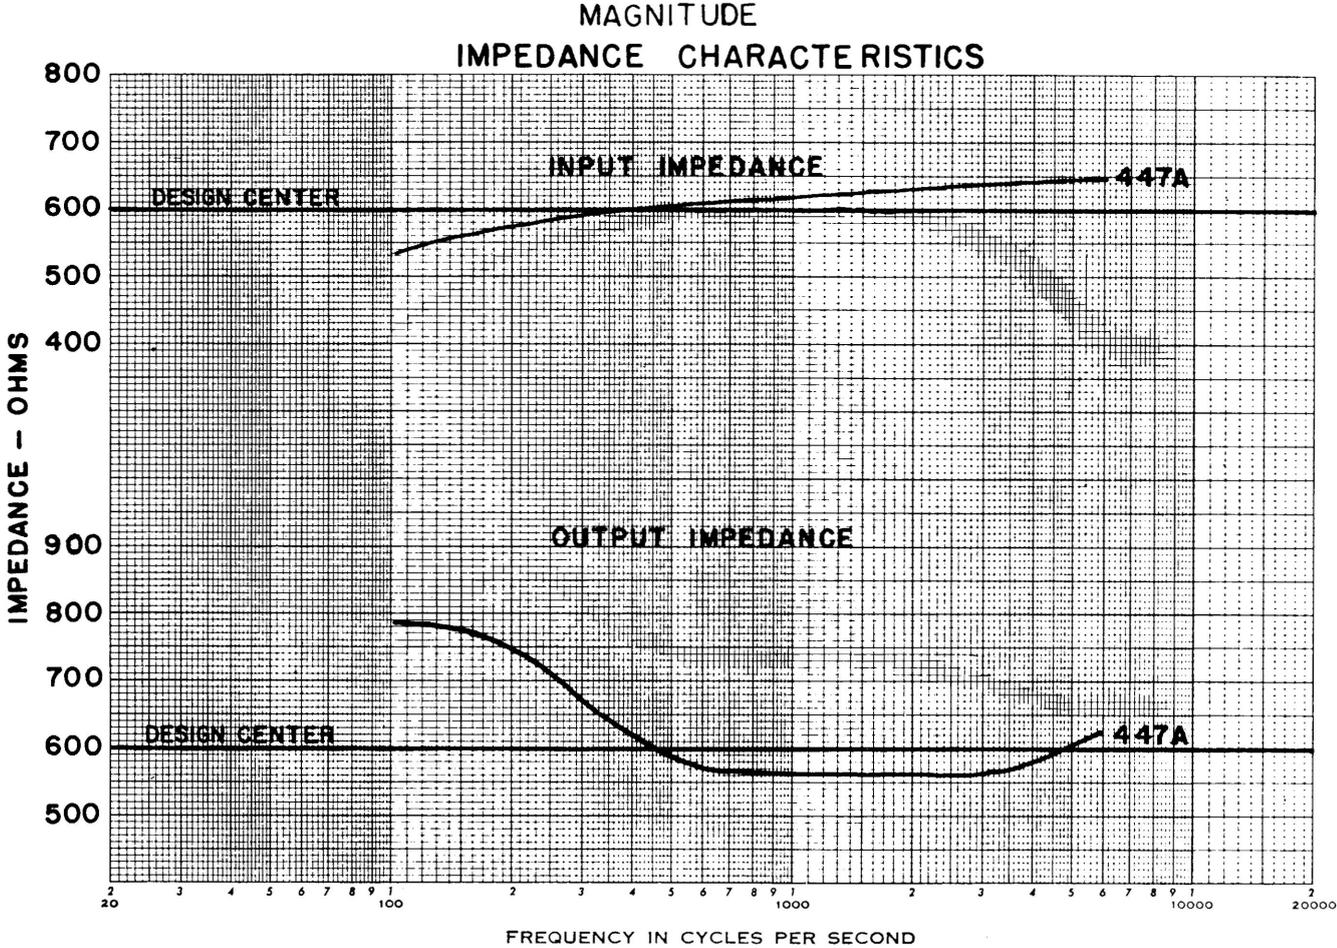

FIG. 2
2.02 Impedance characteristics are shown in Figure 2.